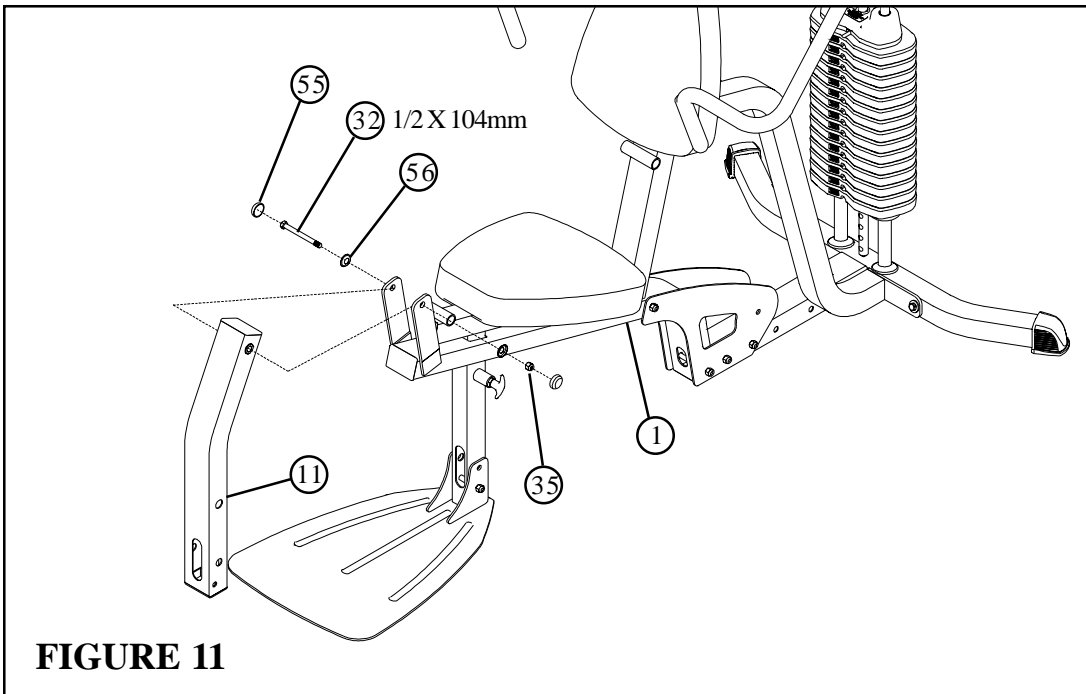

**FIGURE 10**
- Apply WEIGHT STACK LABELS (61) to WEIGHTS (22) and HEAD PLATE (19) as shown in FIGURE 10. Begin with number one at the HEAD PLATE (19) with larger numbers in consecutive order towards bottom of weight stack.
- Securely assemble one SEAT PAD (13) to the SEAT ADJUSTMENT (10) using two 3/8 X 3" BOLTS (29) and two 3/8" WASHERS (36) as shown.
- Securely assemble one SEAT PAD (13) to the FRAME (1) using two 3/8 X 3" BOLTS (29) and two 3/8" WASHERS (36) as shown. **The top connection of the FRAME BRACE (64) may have to be loosened and then re-tightened after SEAT PAD (13) is tighten**
- Gently insert SEAT ADJUSTMENT (10) into tube located on FRAME (1)
- Securely tighten the SPRING PIN (50) to the FRAME (1) and hand tighten the STAR KNOB (52)